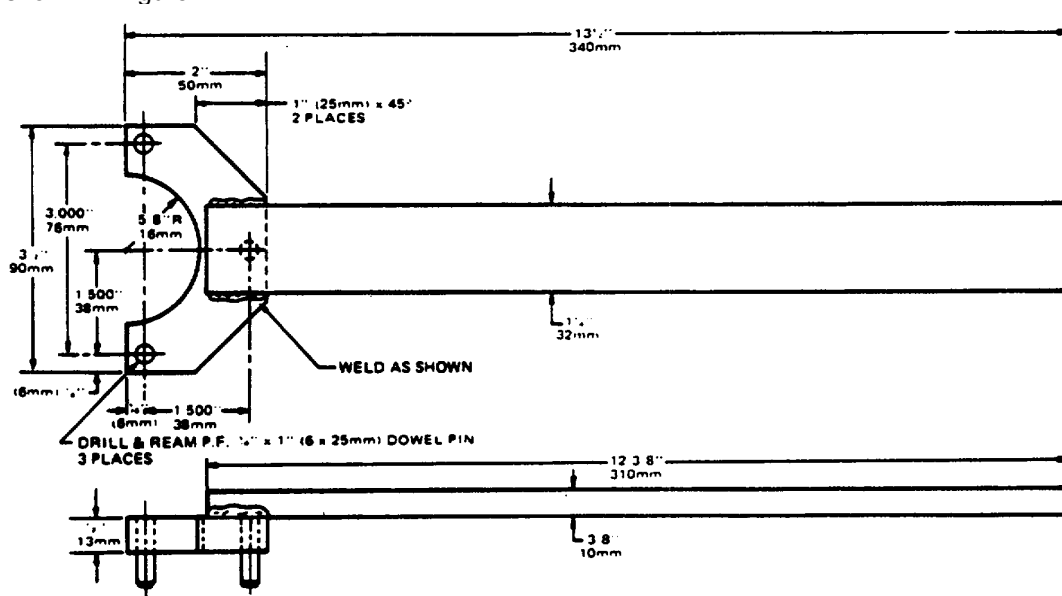

FIGURE 122
- (f) A special spanner wrench is required for the next step. A suggestion for constructing one is shown in Figure 122.